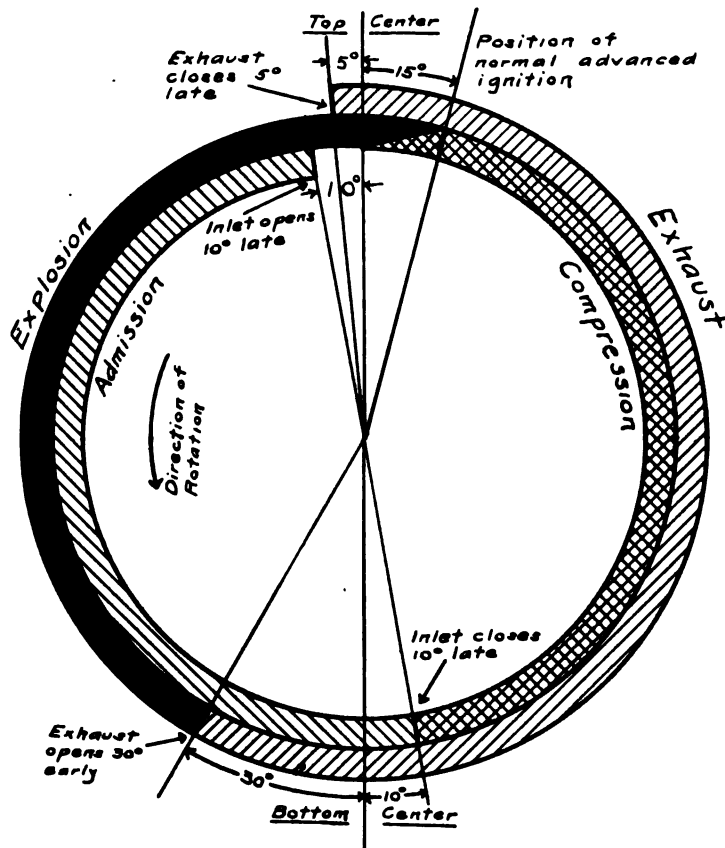

Fig. 32.
- 222** — *a. Fig. 32 gives a diagram for the valve opening and closing of a 45 engine, and shows the actual duration of the different strokes. When the piston is passing through top or bottom center, it is practically at a standstill, during which time the crankshaft, however, is in uniform circu-*